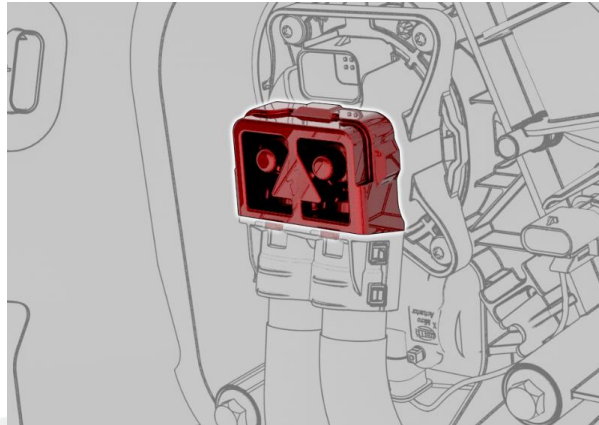

Figure 7
14. If not already removed, remove the charge port busbar safety cap from the vehicle (Figure 7).
16. Install the charge port busbar safety cap (Figure 7).